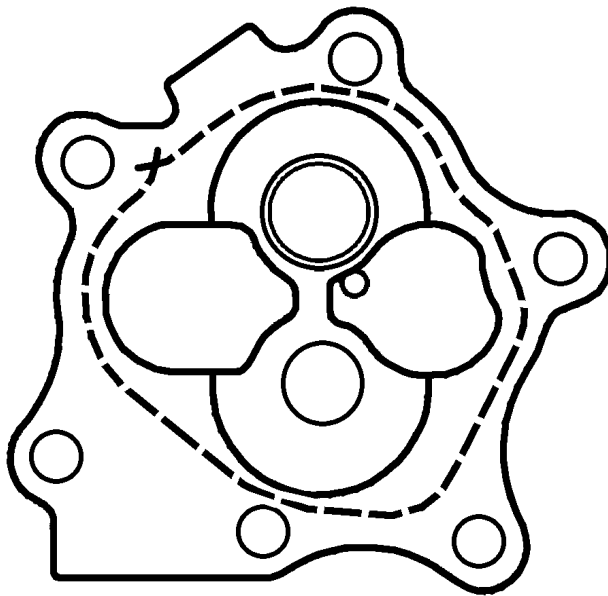

Figure 9. Threading Diagram, Scavenge Pump Bodies 640741, 652019, 652019, & 655713
4. Apply P/N 641543 (a continuous, single piece of grade "D" silk thread) as shown by the dashed lines in Figure 9.